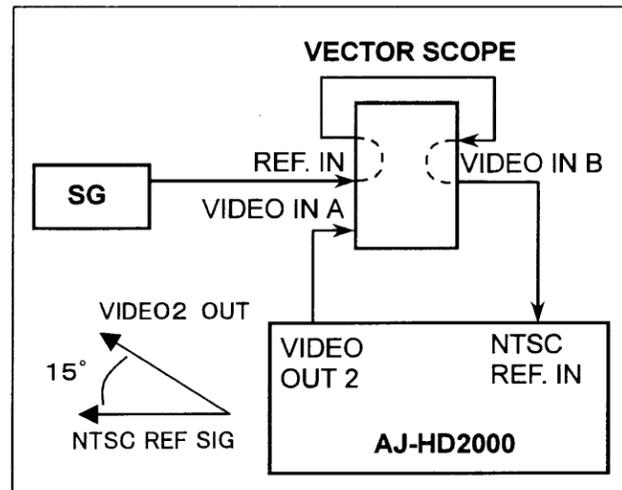

Figure 11
3. Supply a NTSC Black Burst signal to the NTSC REF (DOWN CONVERTER) connector on the rear panel and connect its though out to Ext.Ref. input and input A of the vector scope as shown in Figure 11.
4. Connect the VIDEO2 output signal to the input B of the vector scope as shown in Figure 11.
6. Adjust VR15 so that the phase deference between the NTSC Reference signal (B) and Video Out 2 (A) becomes 0° ± 5° .